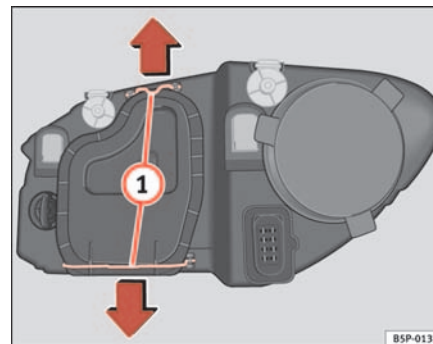

Fig. 182 Dipped head-lights
- Remove the loops ⇒ page 251, fig. 182 ① in the direction of the arrow and remove the cover.